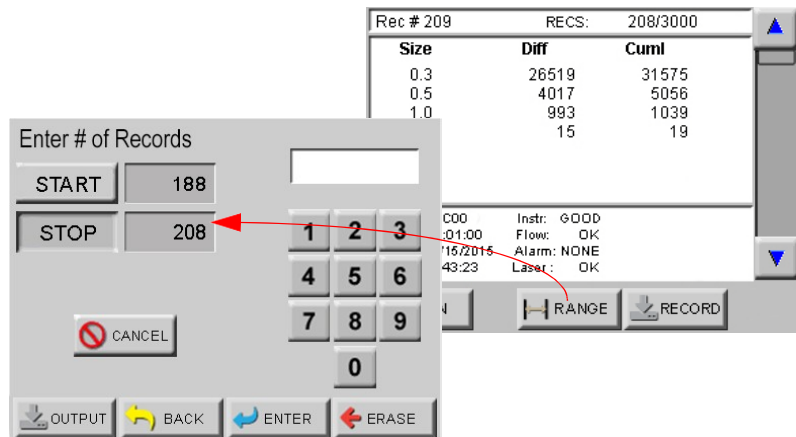

Figure 5-63 Selecting a Range of Data
2. Press the Range button to display the # of Records screen to select a range of records to output. Figure 5-63 shows the Data records and the range-select screens. Note that the value in "STOP" is 208 - this is the total of records so far in this example. If the entire list is to be stored, leave the default values and press the OUTPUT button.
3. If only a set number of records are to be saved, press the START button and enter the first record's number and press ENTER. If a character is mis-typed, press ERASE to remove it. Press the STOP button and enter the ending record to be stored. Figure 5-63 shows an example where 21 is the total number of records to be stored (1st=188, end=208, difference=21, which includes 188). When the correct numbers are entered, press the OUTPUT button to send the records to the USB. If an incorrect value is entered, the instrument will do nothing.